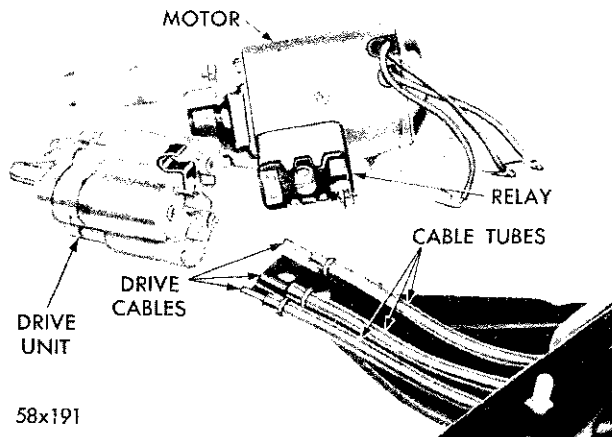

Fig. 66—Removing the Drive Assembly from the Left Slave Unit
- (7) Remove the drive assembly with tubes from left slave unit (Fig. 66).
- (8) Remove the flexible cables from the tubes.